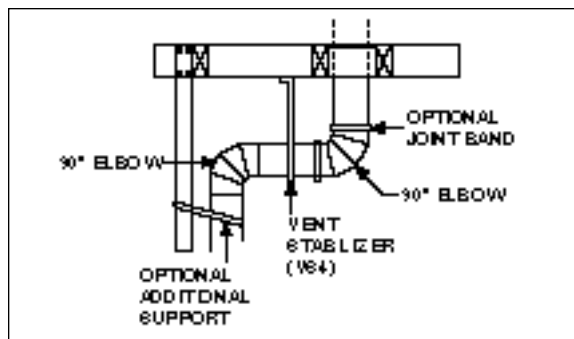

Figure 12
a. Using elbows. To bypass any overhead obstructions, the vent system may be offset using a 90° elbow (VK5) or a 45° elbow (EL45). Vent stabilizers (VS4) have straps for securing these parts to joists or rafters. Plumbers tape may be purchased locally and used in conjunction with vent stabilizers. See Figure 12.